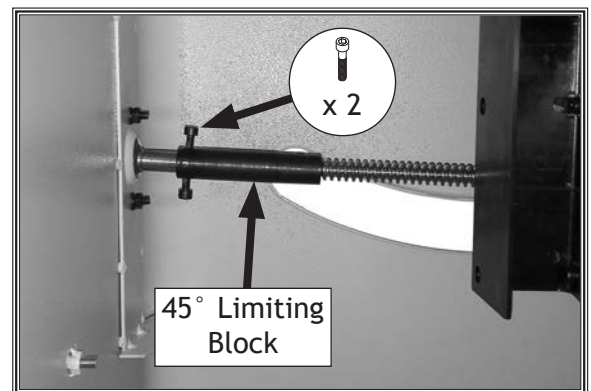

Figure 102. Location of 45° limiting block.
5. Loosen (2) M5-.8 x 10 cap screws in 45° limiting block (see **Figure 102**).